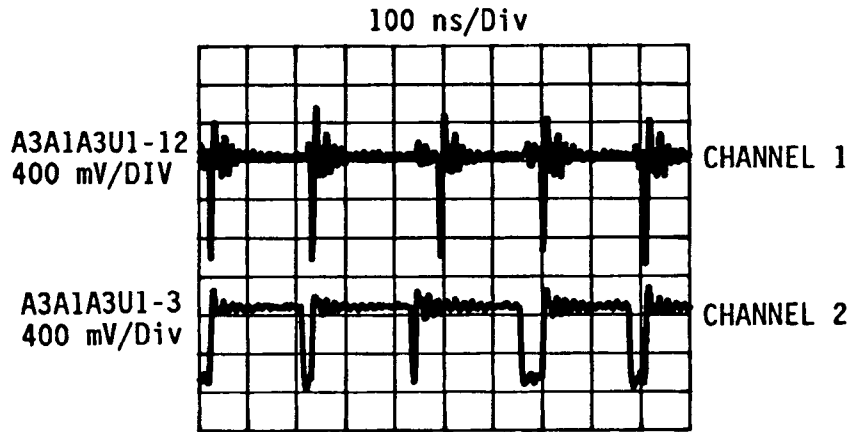

Figure 8-57. A3A1A3U1 Pins 3 and 12 Waveforms
24. If both the M Divider and N Divider are working, place the M/N Phase Detector Assembly on an extender board. Reconnect the 400 MHz IN cable, A3A1A2W1 (829), to A3A1A3J1, the 355—395 MHz cable, A3A1A3W1 (92), to A3A1A5J1, and the 20 MHz cable, A3A1A3W2 (89), to A3A1A1J3.
25. Connect the oscilloscope to A3A1A3U1 pins 3 and 12. Press PRESET (3 GHz). Observe the waveforms which should be as shown in figure 8-57.